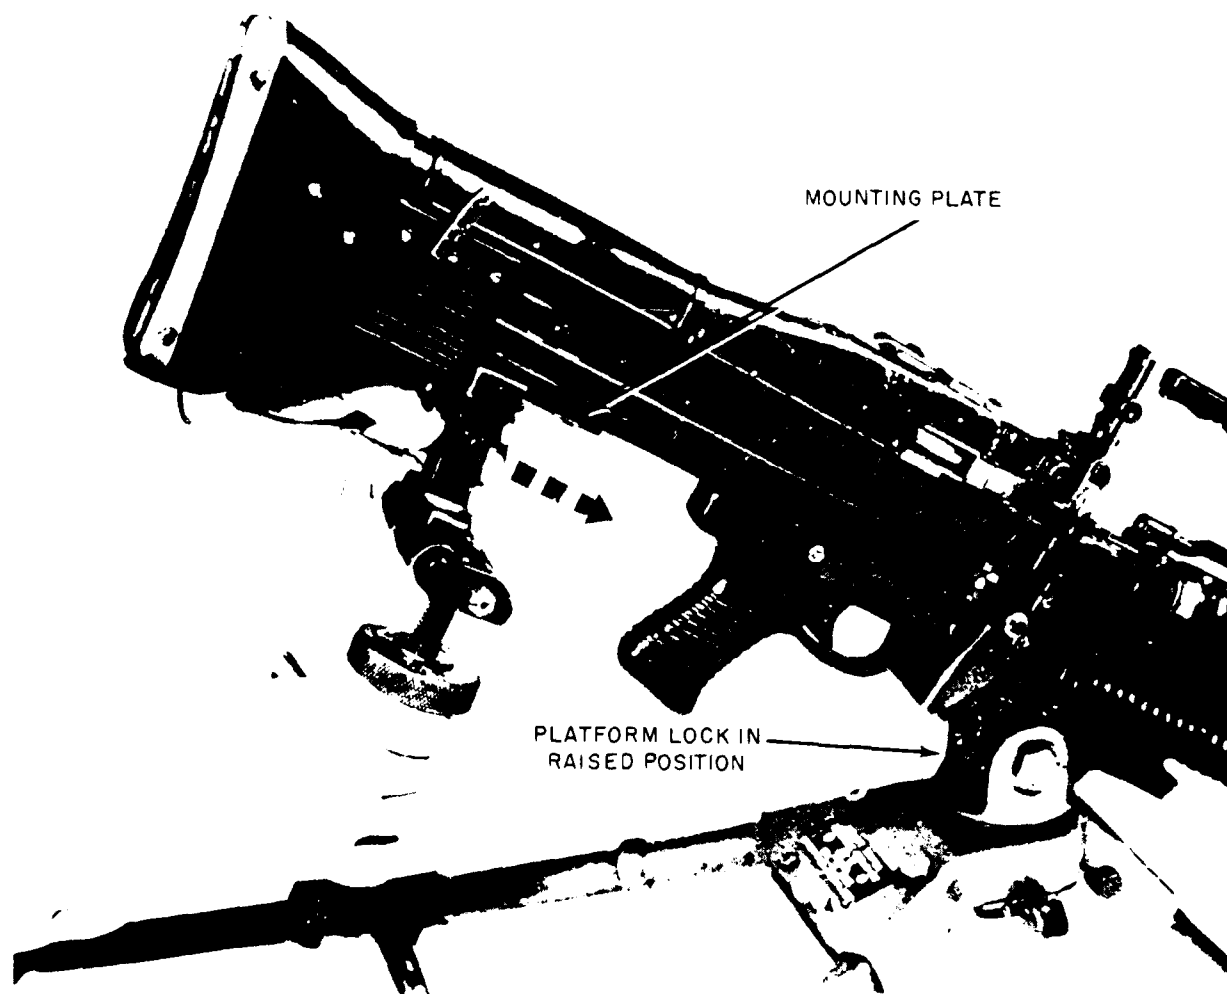

Figure 5-14.—Attaching the traversing and elevating mechanism.
To attach the traversing and elevating mechanism, mount the gun on the tripod and take the following steps: (1) release the platform lock and raise the rear of the gun; (2) place the mounting plate recess on the rear of the mounting plate and push it forward, as shown in figure 5-14 (the adapter pin automatically locks into position in the bottom of the mounting plate); and (3) lower the rear of the gun, place the traversing slide (with the traversing slide lock lever to the rear) on the traversing bar, and lock into position.